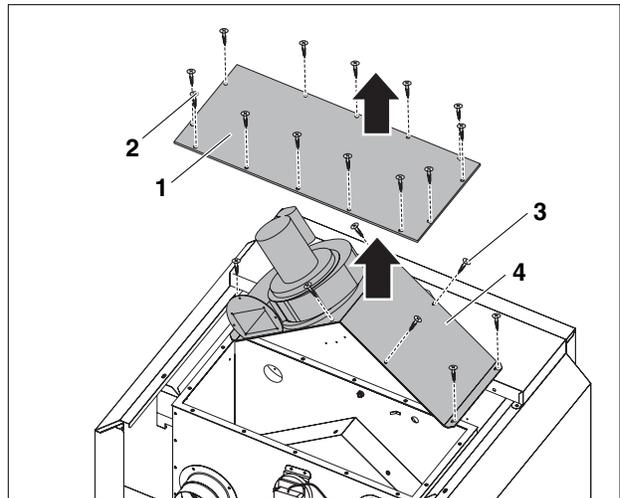

Fig. 35 Removal of the inducer
6. Remove the screws (Fig. 35, **Item. 3**) that secure the sheet metal blower base.